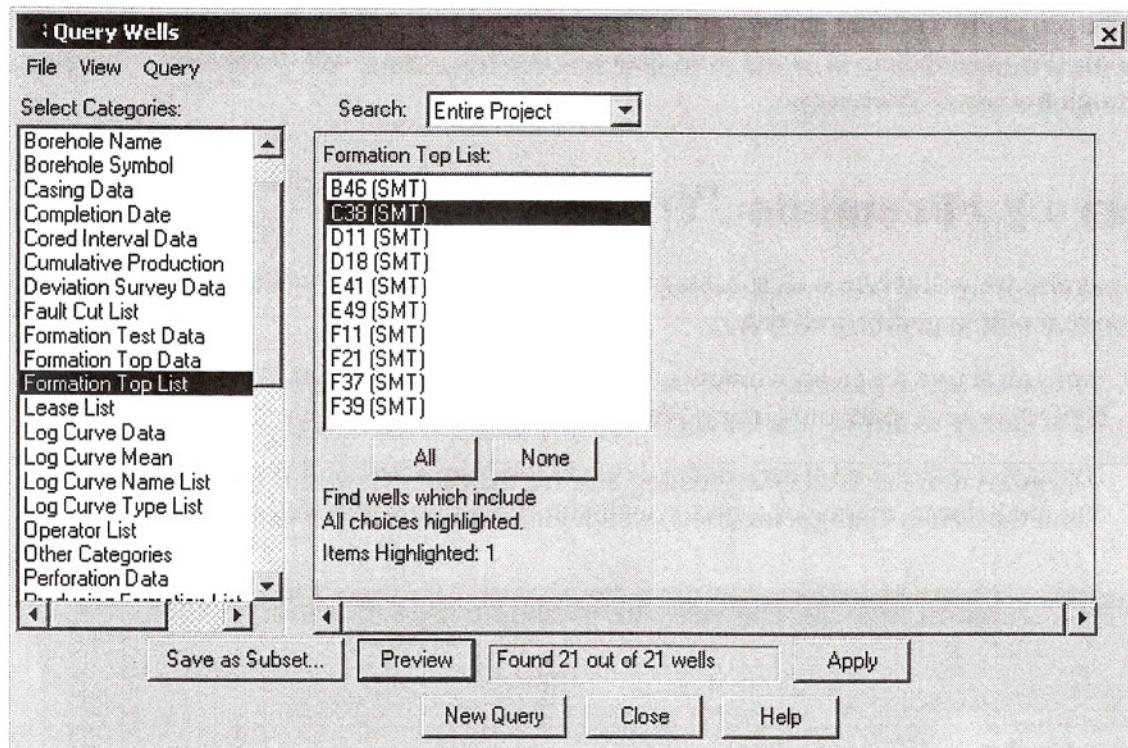

Figure 1.4 — Query Wells C38 Formation Tops
4. Click on the **Preview** button at the bottom of the dialog box to view the number of wells that satisfy the query. In our example, there were 21 wells loaded and the query found 21 wells that had C38 formation tops (Figure 1.4).